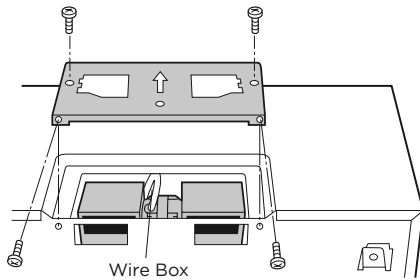

Figure 10
- Replace the fan cover bracket. Make sure the fan blades are visible through the rear openings in oven before proceeding. Attach the fan cover bracket to the unit with the 4 screws removed in step 1 above. See Figure 10. The hood fan is now rotated for horizontal exhaust operation.